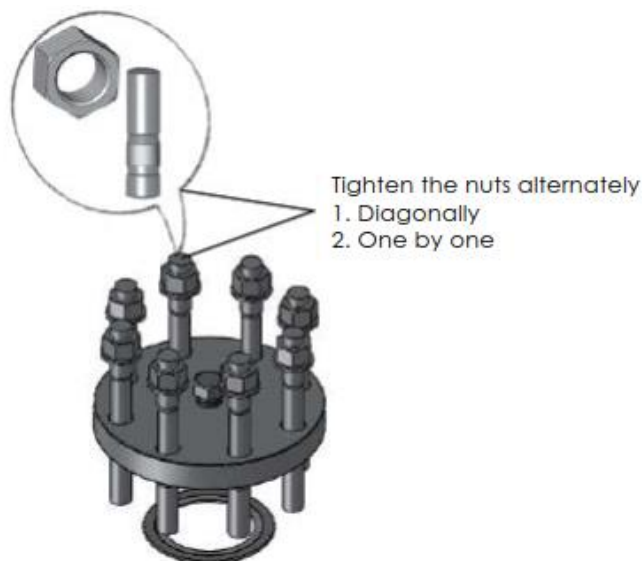

Figure 7-3
6.3.4 Install the bolts and nuts that connect the flange cover to the outer cylinder and alternately tighten the nuts (Figure 7-3).